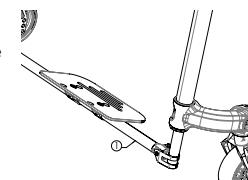

Fig. 4d
- The Veloce is equipped with a flip-up or Auto-folding footplate (fig. 4d)